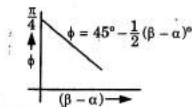

Fig. 2.6.1. Merchant's relationship.
4. A plot of ϕ against $(\beta - \alpha)$ is shown in Fig. 2.6.1, having intercept of $\pi/4$ and a slope of $-1/2$.